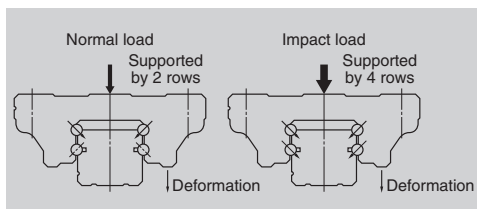

Fig. 5 Shock-resistance
- When a super-high load (impact) is applied, our Gothic arch groove spreads the load to surfaces which usually do not come into contact in ball type. This increases shock resistance (Fig. 5).